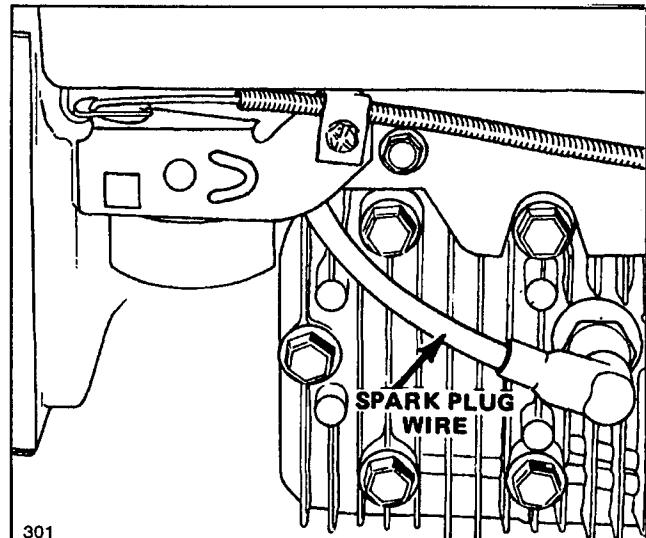

Figure 11
1. Stop engine and pull wire off spark plug (Fig. 11).
1. Stop engine and wait for engine to cool. Pull wire off spark plug (Fig. 11).